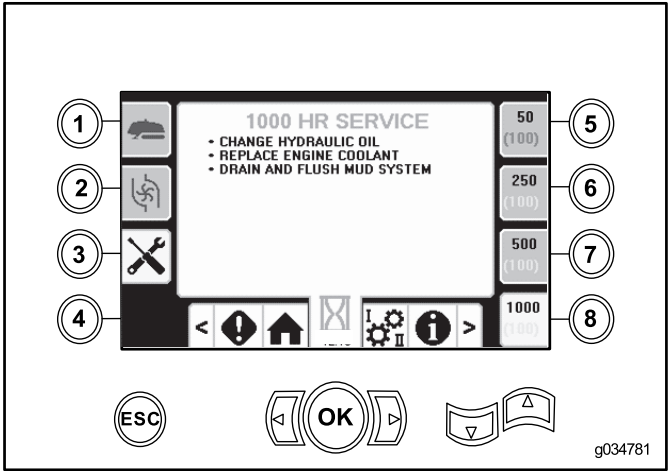

Figure 47
- Button 8—1,000-hour (Figure 47)